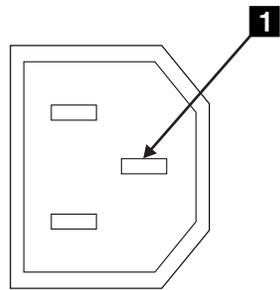

Figure 8. Ground pin (2104 Model TS4)
- c. Check for continuity between the chassis of the 2104 Model TS4 and the ground pin **1** of the power connector on each fan-and-power-supply assembly. See Figure 8.